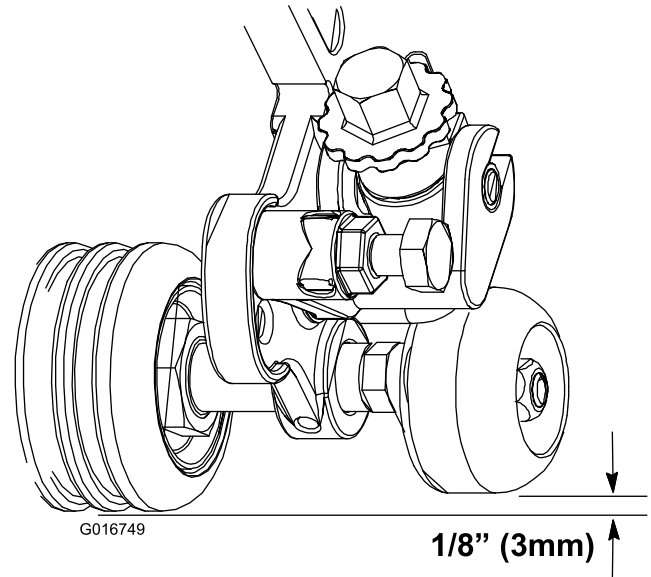

Figure 2
6. Rotate the roller downward until it is 1/8 inch (3 mm) higher than the front roller (Figure 2).